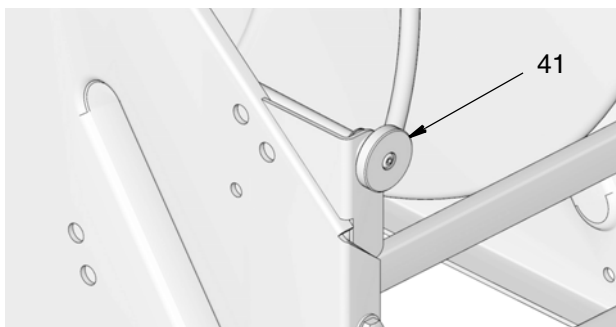

FIG. 13
5. Remove brake tension by turning the brake knob (41) to the left to decrease / loosen brake tension (FIG. 13).